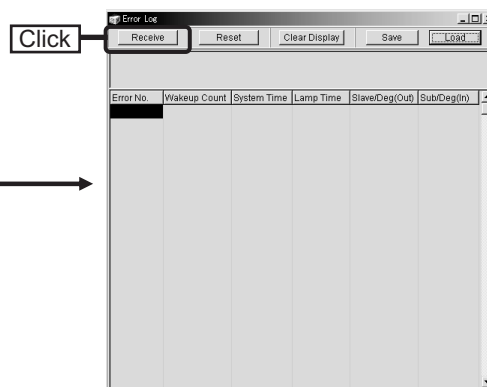

Fig.2 <Error log> screen
- (4) Click the [Error Log] button to show the screen indicated in Fig.2.
- (5) Click the [Receive Log Data] button to display the history.